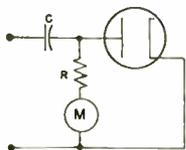

Fig. 1. Simple shunt diode Type VTVM
**Tele-Clue No. 2.** The white trailing reflections indicate phase shift and poor low-frequency response. This condition results from a reduction in the resistance of either the detector load resistor R265 or the video amplifier load resistance R275. This photograph was obtained by reducing R265 from 5100 ohms to 1000 ohms. Any reduction of the load resistance in these circuits will affect the amplification of all frequencies. However, due to the peaking coils, the higher frequencies will not be affected as much as the lower frequencies. This is illustrated in the load resistance curves appearing on page 2. Fig. 1 is a standard circuit which, except for slight variations in component values, is used in many TV receivers. This condition can also be due to misalignment caused by the picture carrier being more than 50% down. This condition could also be due to a defect in the transmitted signal. It is suggested therefore, that another channel or receiver be used for comparison.
**Fig. 1.** This circuit, although specifically used in G-E Models 805, 806, 807 and 809 receivers, is typical of detector and video amplifier circuits used generally in TV receivers
**Tele-Clue No. 3.** The above photograph indicates phase shift and a loss of both high- and low-frequency response and is due to resistor R275 in Fig. 1 being changed to 20,000 ohms. The loss of high frequencies is indicated by a reduction in definition. The reflections and smearing indicate phase shift and loss of low frequencies.
There are several basic types of v.t.v.m.'s which are illustrated below. The circuit in Fig. 1 is a simple shunt diode v.m. useful for measuring peak alternating or pulsating d-c voltages and has little application in service work. The circuit in Fig. 2 is similar but has the added advantage of the amplification properties of the triode tube making it possible to use a less sensitive meter. The slide-back v.t.v.m. illustrated in Fig. 3 is useful for measuring the peak value of an a-c voltage up through the lower radio frequencies as well as d-c voltages. It is an instrument which can be set up bread-board fashion and which will give good accuracy. Any low mu triode may be used with a plate voltage of from 100 to 200 volts d-c.  $E_1$  then should be approximately 5 to 10 volts and  $E_2$  should be equal to or slightly greater than the maximum voltage to be measured. A 0-10 ma meter may be used in the plate circuit. To use the instrument, set  $E_1$  by means of  $R_1$  to a value that nearly biases the tube to cutoff, in other words causes the plate current to read not more than 0.5 ma when  $V$  is set at zero and the input is shorted out. Then making sure that  $E_2$  is set at the maximum value, apply the voltage to be measured to the input and decrease  $R_2$  until the plate current again reads the original value of 0.5 ma. The reading of  $V$ , which may be any d-c voltmeter, will then be equal to the peak value of the unknown voltage. This arrangement can often be used to advantage to measure receiver a.v.c. voltages and other voltages from a high impedance source when your regular v.t.v.m. is not available.